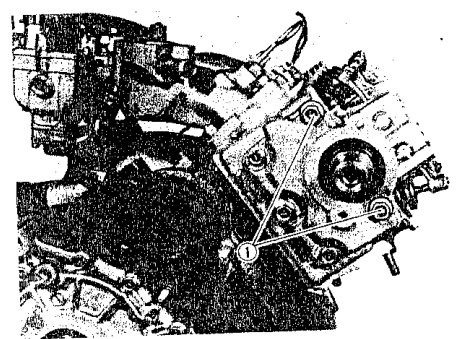

Fig. 3-135
Two bolts ① for securing the front side case to cylinder head, Fig. 3-135, need to apply GY230, because the bolt holes for the two extend into the interior of cylinder head.